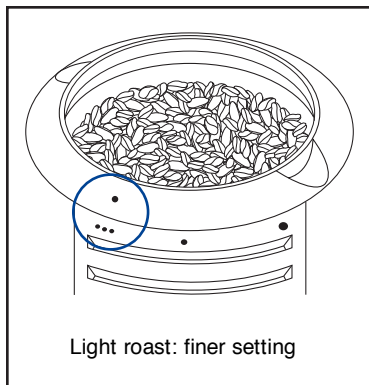

Fig. 12
4. Grinder Fineness Adjustment Ring (Fig. 12 & 13)